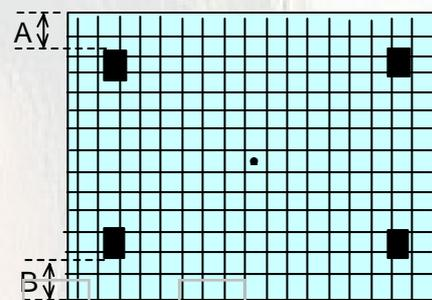

Fig.2-10 NTSC cross hatch
2. Adjust each distance of A (from ■ to top end on screen) and B (from ■ to bottom end on screen) so that they are equal. (Fig. 2-10)